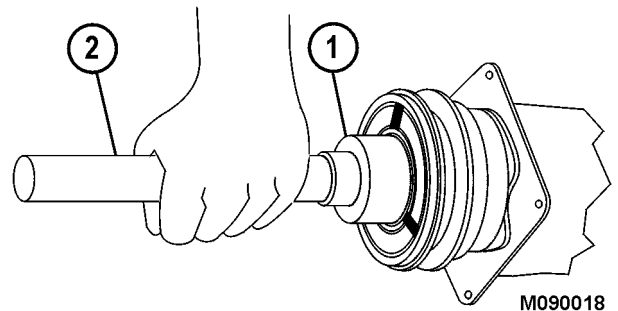

FIGURE 4-24.
1. Place the pulley assembly into position on the compressor. Use bearing installer (1, Figure 4-24), universal handle (2), and a hammer to lightly tap the pulley assembly onto the compressor until it seats. Use of the installer or the equivalent ensures that the force driving the bearing into position acts on the inner race of the bearing. Applying force to the outer race of the bearing will result in bearing damage.